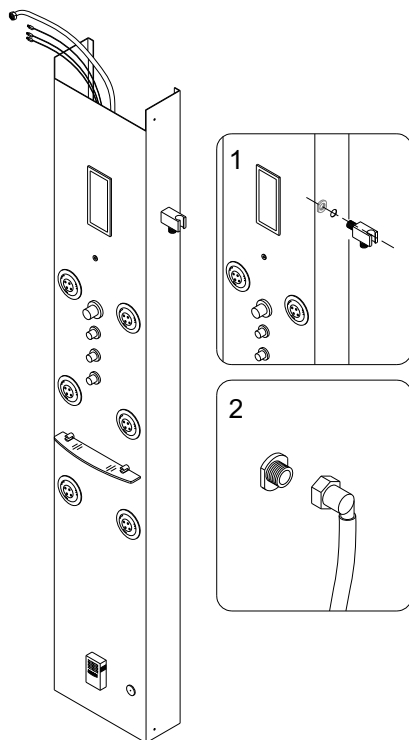

Fig. 9
2. Fasten the **Hand shower union (37)** on the side of the **Shower column (11)** and connect the hose. See fig. 9 for details.
3. Refer to fig. 9 put the shower column in place and level it vertically. Locate the holes position for the **Column Wall Brackets (35)**. Drill the holes and insert the **Wall anchors (27)**. Attach the **Column Wall Brackets (35)** to the wall using the **Round head screw ST4.2×30 (22)**.